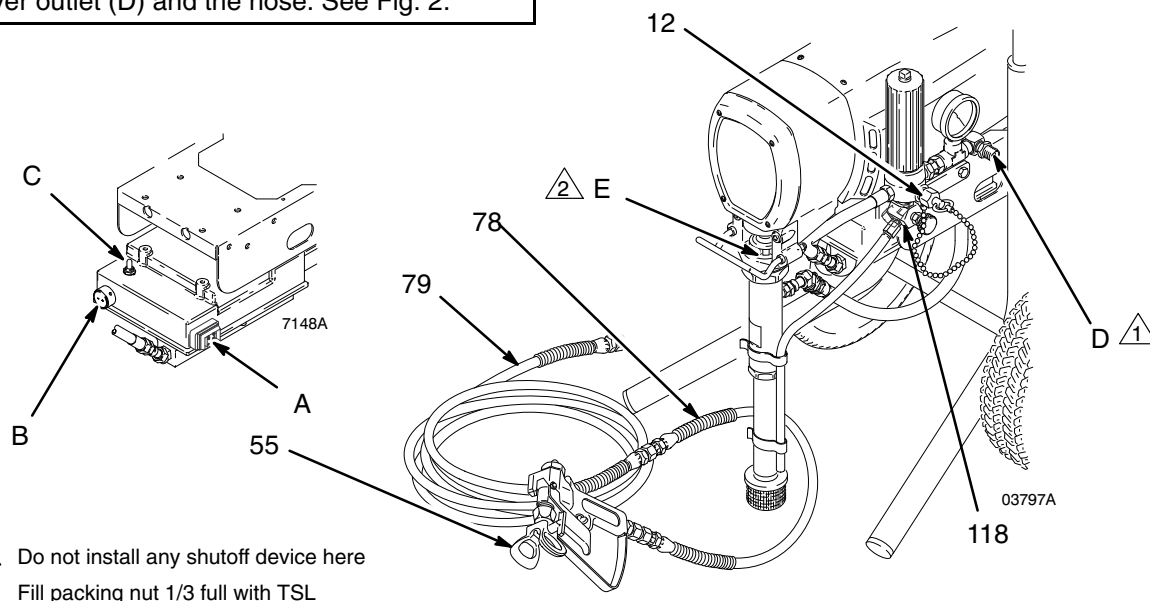

Fig. 2
3. Never install any shutoff device between the sprayer outlet (D) and the hose. See Fig. 2.
1. Connect gun, 1 m hose (78) and 15 m hose (79). Don't install spray tip yet.
2. Two gun hookup. Remove cap (12) from 1/4 npsm(m) secondary hose outlet and attach minimum 15 m long hose. For more flexible gun movement, install 3/16 in. ID, 1 m whip hose between main hose and gun.
3. Fill packing nut/wet-cup (E) 1/3 full with Graco Throat Seal Liquid (TSL), supplied.
4. Check electrical service. Be sure electrical service is 220 V, 50 Hz. Use properly grounded outlet. If plug is wrong, have licensed electrician attach correct plug to power supply cord. Do not remove grounding prong of power supply cord. Do not use an adapter. Extension cords must have 3 wires of minimum 2.5 mm (12 gauge) size. Long extension cords reduce sprayer performance. Set 10/12 Amp switch (C) to correct setting.
5. With ON/OFF switch (A) OFF, plug cord into a grounded electrical outlet located at least 6 m (20 ft.) away from spray area. See Fig. 2
Always use this procedure to help ensure sprayer is ready to operate and that you start it safely. See Fig. 2